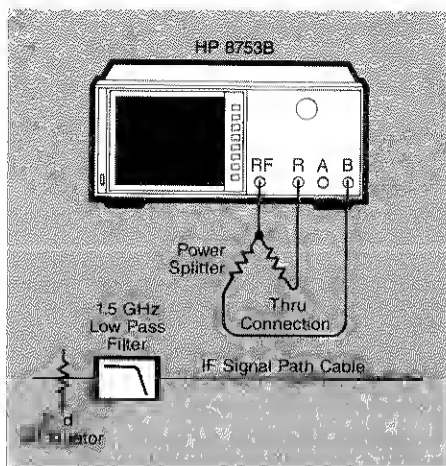

Figure 6. Block diagram for a B/R response calibration and device normalization.
The following procedure describes the steps necessary to perform a swept IF conversion loss measurement, using the setups in figures 6 and 7. The first five steps in this procedure are used to measure the response of the IF signal path, so that its response can be mathematically removed from the conversion loss measurement that follows.
1. Connect the hardware in figure 6 with a thru connection between the power splitter and the receiver's B port.
2. Press [PRESET] on the front panels of the HP 8753B and the local oscillator (LO) source.